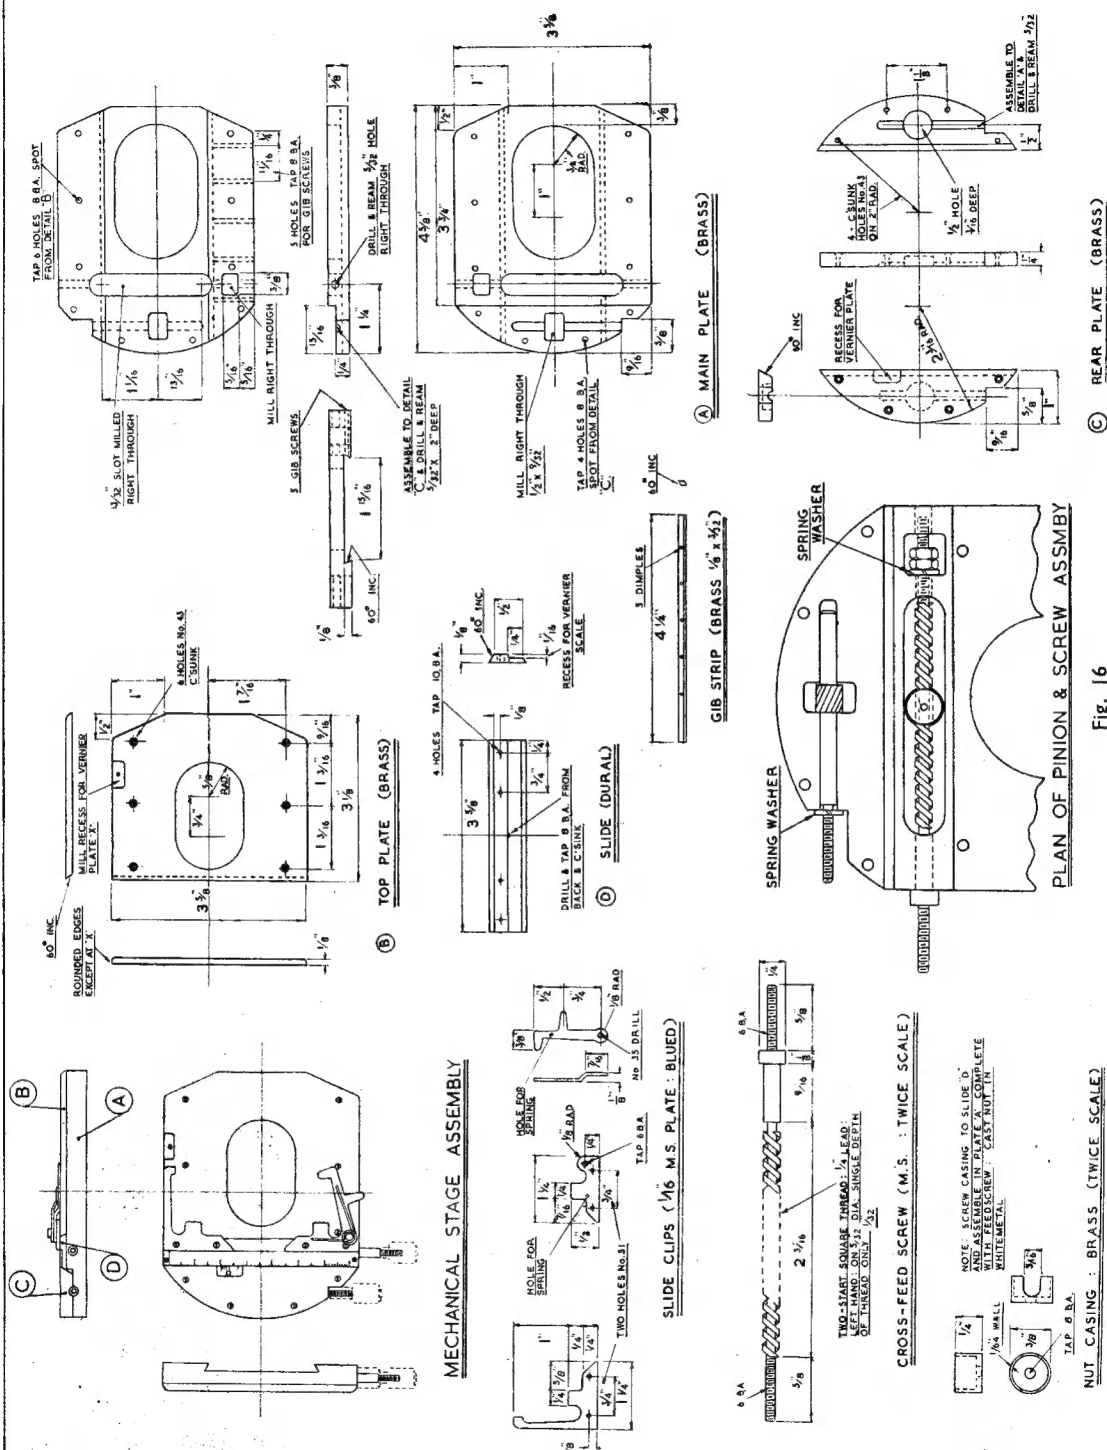

Fig. 16
This is probably the most difficult component of the whole instrument to construct, and requires a considerable amount of accurate milling and drilling. The main body of the slide is made from a plate of hard brass, $\frac{3}{8}$ in. thick. To the top of this, two plates are screwed, thus concealing the milling, and providing the slides in which the small cross-slide operates. In this way we also obtain the split bearing for the pinion shaft which operates the forward and backward motion. Drawing (A), Fig. 16.
Before proceeding to a more detailed account of these movements, it is as well to draw attention to the small feed-screw and nut shown in the lower left-hand corner of Fig. 16. The screw is likely to provide a nice exercise in screwcutting, as it is a left-hand, square thread, two-start screw, of $\frac{1}{8}$ in. lead, cut on a piece of 5/32 in. mild-steel. On this diameter it is impracticable to cut the thread to the depth that is theoretically correct; i.e., $\frac{1}{16}$ in. single depth, as this would leave a core diameter of only 1/32 in. A nominal thread depth of 1/32 in. has been specified, although the thread may be even shallower than this without any dire consequences, because the load is so exceedingly light. As a working note it may be mentioned that the width of the square threading tool must be $\frac{1}{16}$ in. with plenty of side clearance, and that the lathe must be geared to cut 4 t.p.i. As the thread is left-hand, cutting will commence at the chuck end of the job, and traverse towards the tailstock. Indexing for the two-starts is best done by chalking the changewheels.
The method of assembly of the feedscrew within the plate will be seen in the enlarged drawing at the centre-bottom of Fig. 16. This is drawn as if viewed from the top, with the small cross-slide omitted for clarity. In assembling it is first necessary to slide the cross-slide into position, and secure the nut with a small countersunk screw. The feed-screw is then pushed into the bearing hole and screwed into the nut. When a sufficient amount of the 6-B.A. thread protrudes into the milled slot, the two lock-nuts and the spring